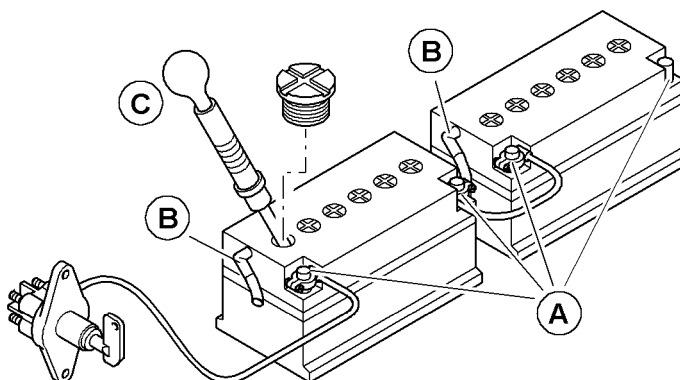

Fig. 5-55 Battery care
- ▶ Particular care should be taken to clean the pole ends and cable terminals **A** regularly and to then cover them with a thick layer of acidproof grease (siehe Fig. 5-55).
- ▶ Check the condition of the hoses **B** regularly, particularly after installing a battery (siehe Fig. 5-55).